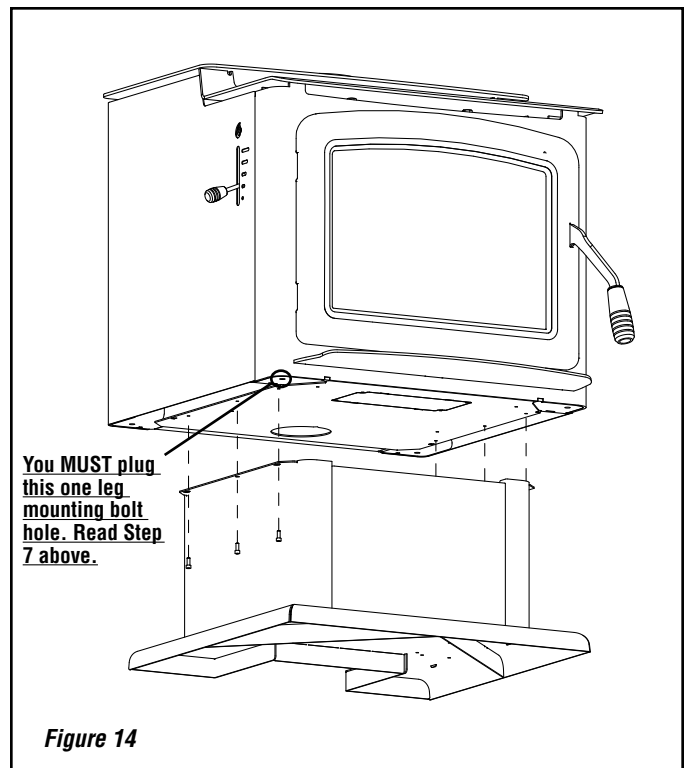

Figure 14
2. Install the 10-24 screws included with the pedestal kit to the bottom of the stove as seen in **Figure 14**. You will need a 5/32" allen wrench to complete this.